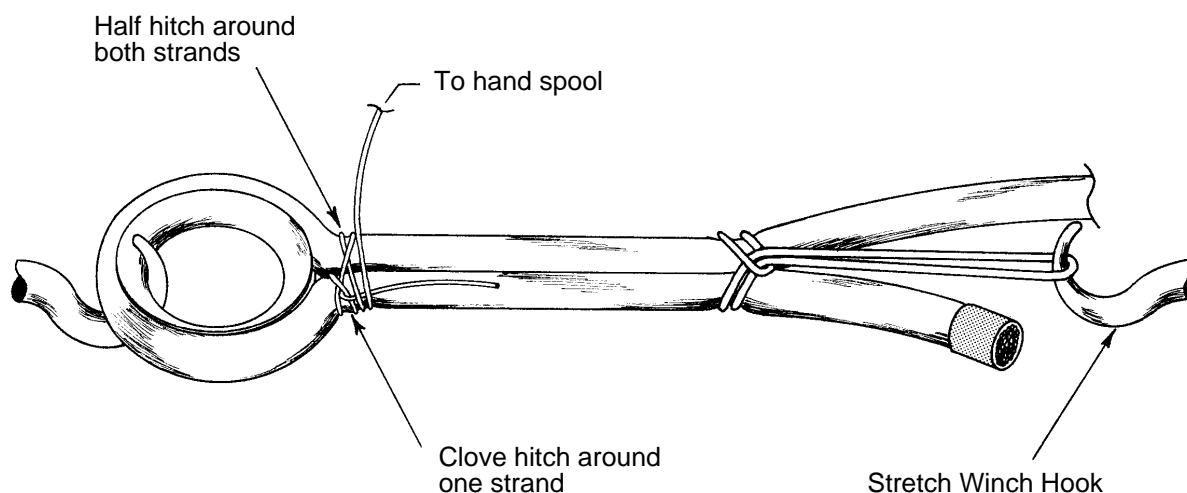

**Figure 4 - Loop without Thimble**
On loops not fitted with a thimble or bushing, form a loop as specified on the engineering drawing and tie the two strands with the stretch loop. Mark the point at which the serving is to start on the elastic cord (see Figure 4).
- On terminals with no thimble or bushing, tie the clove hitch at the point at which serving is to start (see Figure 4).